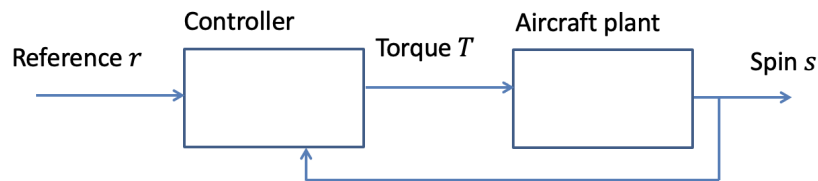

Figure 2: Block diagram of the proportional controller for the aircraft’s yaw rate. Fill in the controller and plant equations.
- (f) Complete the block diagram in Figure 2 by writing the corresponding equations in the **controller** and **plant** boxes.